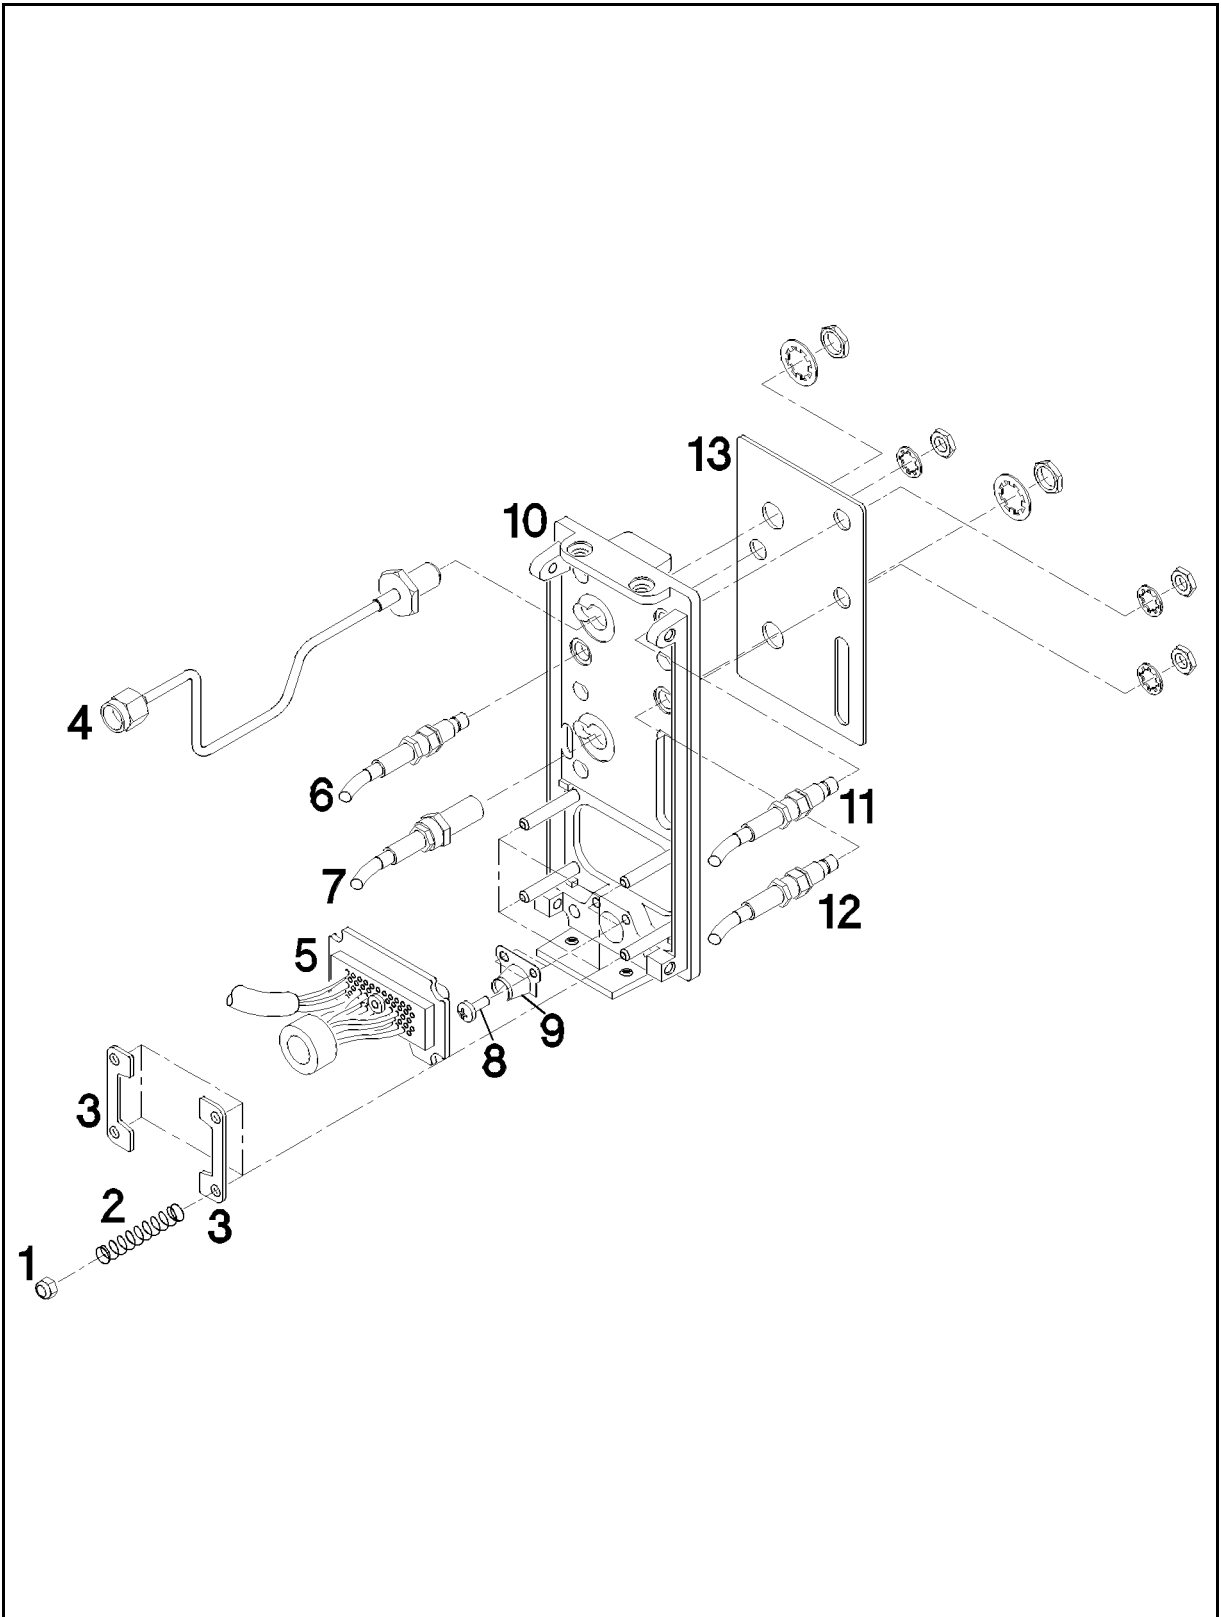

Figure 2-9. Rear Panel Disassembly
2. Using a 5/16-inch wrench, remove the following cables from the rear panel. See Figure 2-9.
3. Using a 15/64-inch wrench, remove the following cables from the rear panel. See Figure 2-9.
1. Ensure the MSIB connector is properly secured to the rear panel assembly. (Figure 2-9).
3. Review **Multiwire Cables**, then connect MSIB cable connector W1 to connector A3J3 and A3J4 (Figure 2-9).
4. Place rear dress panel **(13)** as shown in Figure 2-9.